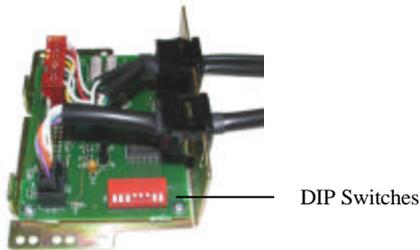

Figure 11. Protocol Adapter Assembly (Typical) — Location of DIP-Switches 1 through 8
5. On PAA, set DIP Switches (**Figure 11**) to activate required functions indicated in Program Specification Sheet; refer to **Table 1** for DIP-Switch definitions.